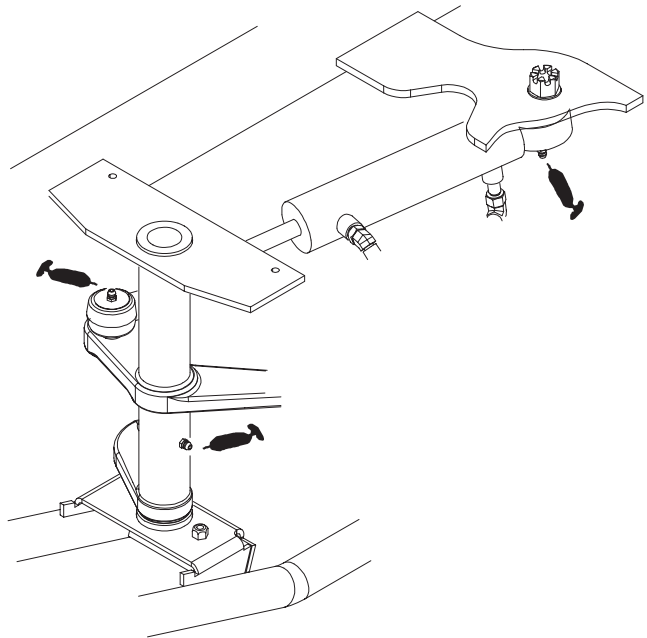
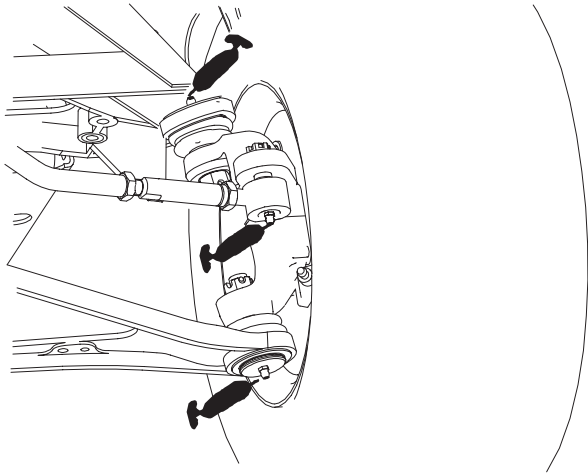
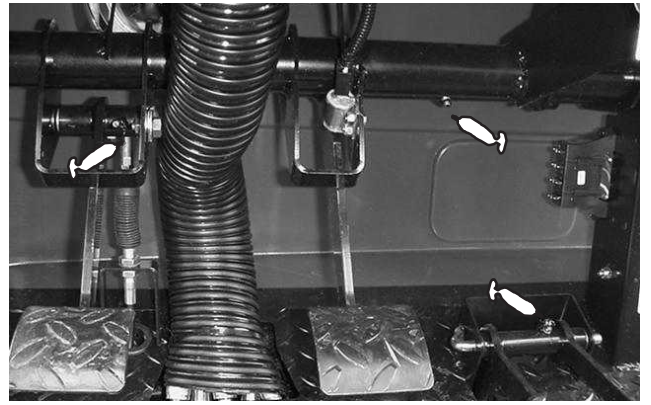

Figure 22
Figure 23
Figure 25
The grease fitting locations and quantities are: Steering pitman arm (1) and Steering ball joint ends (2) (Fig. 22), Tie rod ends (4) (Fig. 23), Front ball joints (4) (Fig. 23), Rear drive shafts (18) (Fig. 24), Pedal Pivots (4) (Fig. 25); and Front pivot bushings (2) (Fig. 26).